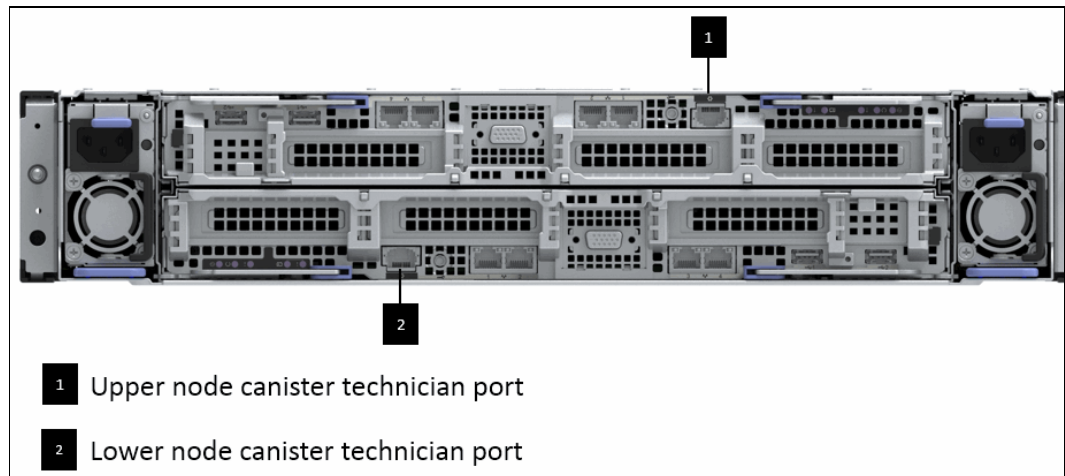

Figure 6-45 Control enclosure technician ports
2. Connect the your laptop’s ethernet port to the technician port of the upper node canister in the control enclosure. See Figure 6-45 on page 203.